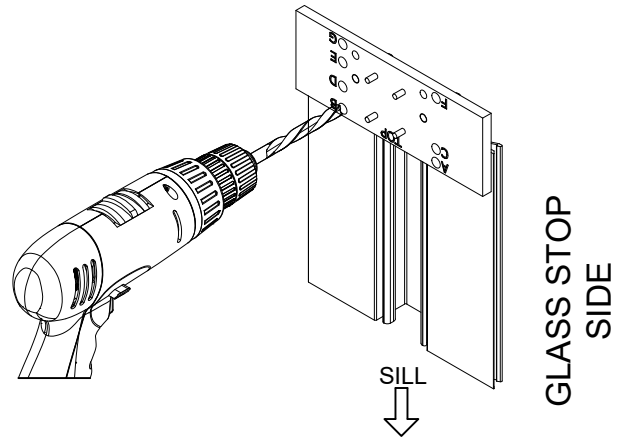

Fig.5.2b
- C. Place the drill fixture so the upper set of threaded pins are touching the top of the mullion as shown below in figure 5.2b.